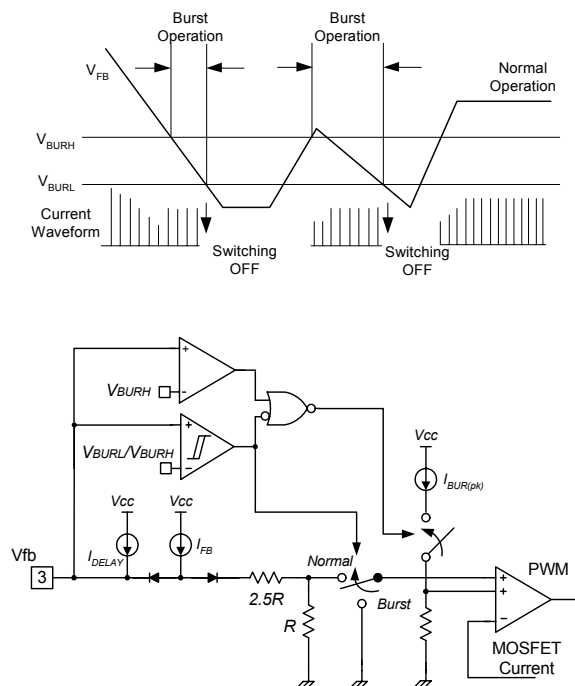

Figure 8. Burst Operation Function
6. Burst Operation : In order to minimize power dissipation in standby mode, the FPS enters burst mode operation. As the load decreases, the feedback voltage decreases. As shown in Figure 8, the device automatically enters burst mode when the feedback voltage drops below $V_{BURH}(500mV)$. Switching still continues but the current limit is set to a fixed limit internally to minimize flux density in the transformer. The fixed current limit is larger than that defined by $V_{FB} = V_{BURH}$ and therefore, V_{FB} is driven down further. Switching continues until the feedback voltage drops below $V_{BURL}(350mV)$. At this point switching stops and the output voltages start to drop at a rate dependent on the standby current load. This causes the feedback voltage to rise. Once it passes V_{BURH} , switching resumes. The feedback voltage then falls and the process repeats. Burst mode operation alternately enables and disables switching of the Sense FET and reduces switching loss in Standby mode.